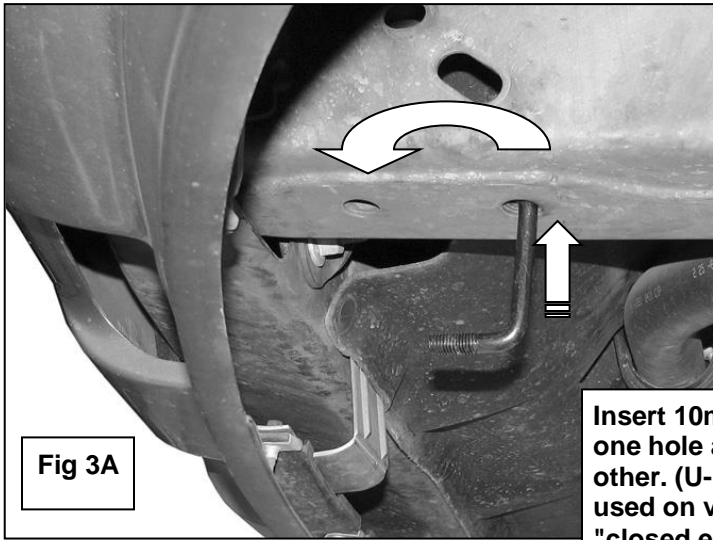
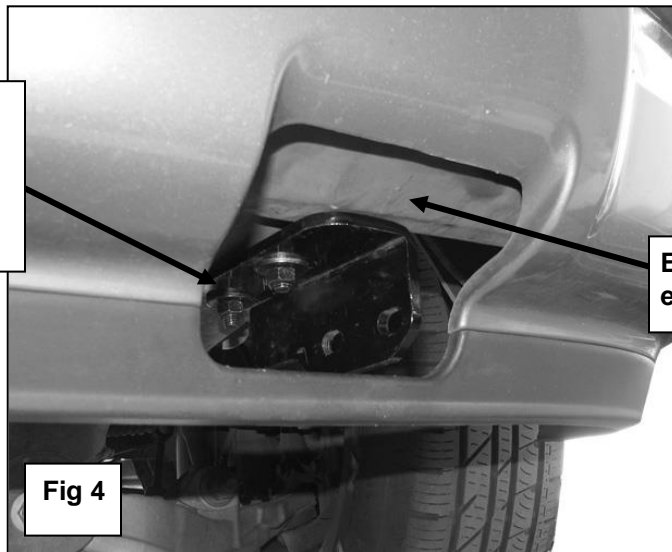

Fig 3A
Fig 4
Starting on the driver side of the vehicle, locate the two holes on the bottom of the frame. Insert (1) 10mm U-Bolt into one hole and out the other, **(Figure 3A & 3B)**. Hold the driver side Mounting Bracket in position with the slotted end toward the rear. Secure the Mounting Bracket to the U-Bolt with (2) 10mm x 30mm OD x 2.5mm Flat Washers, (2) 10mm Lock Washers and (2) 10mm Hex Nuts, **(Figure 4)**. Snug but do not tighten the hardware.